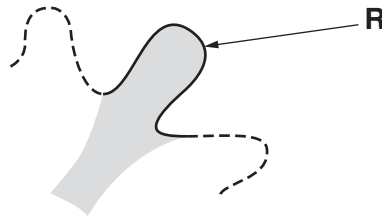

Fig. 2.1
- a structure as shown by the shaded area and labelled **R** in Fig. 2.1